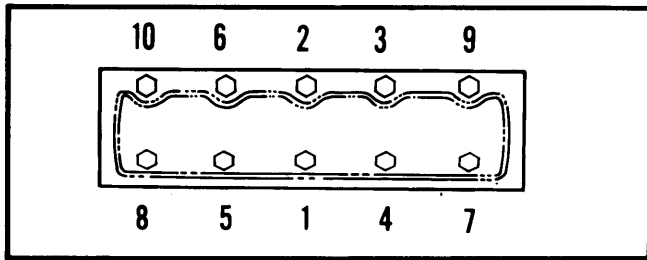

Fig. 3 Cylinder Head Tightening Sequence
2) Coat heads and threads of cylinder head bolts with sealing compound. Install all cylinder head bolts and finger tighten only. Gradually tighten bolts following the sequence in *Fig. 3*. Reverse removal procedure to complete installation.